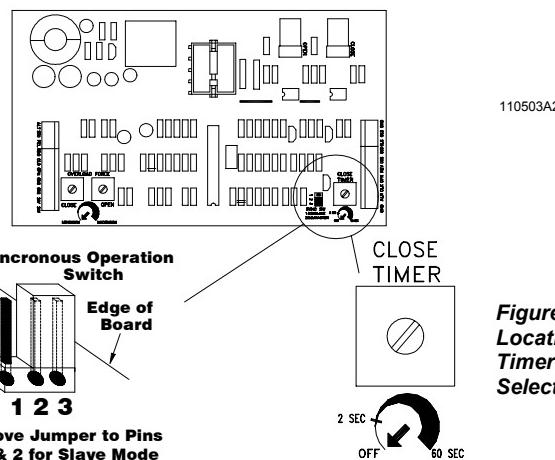

Figure 19:
3. Place the Master/Slave Jumper on the Primary Operator motor control board to the primary position. See Figure 19, Page 16.
4. Place the Master/Slave Jumper on the Secondary Operator motor control board to the secondary position. See Figure 19, Page 16.
The Timer to Close is controlled by the setting of the "AUTO CLOSE TIMER" potentiometer on the control board, see Figure 19. When the pot is adjusted fully counter-clockwise the Timer-To-Close is disabled. Turning the pot approximately 1/4 turn clockwise will enable the Timer To Close function with a delay of approximately 2 seconds between the gate reaching the full open position and automatically closing. To increase the time delay continue to turn the pot in the clockwise direction to a maximum delay of 60 seconds (one minute).
To alter the amount of time that the Close Timer will hold the gate open, adjust the timer potentiometer located on the control board. See Figure 19 below.